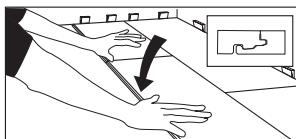

Figure 8
- Mark the last piece, cut and install. After all boards in the row are installed, press or walk all boards flat to the subfloor to begin the next row (Fig. 8).